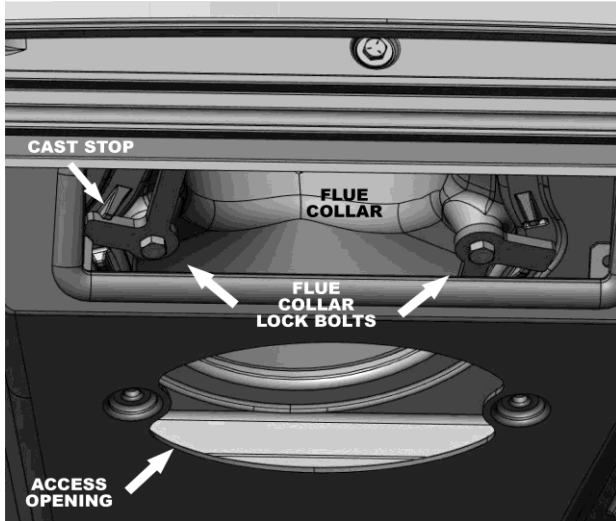

Figure 9 - View Through Bypass Door Opening
**Step Eight:** Use the flue collar locks (see figure 9) to pull the collar into position, then swing each so the short arm becomes captured between the cast stops on either side of the opening. This will prevent the collar from pulling away as the bolts are tightened.